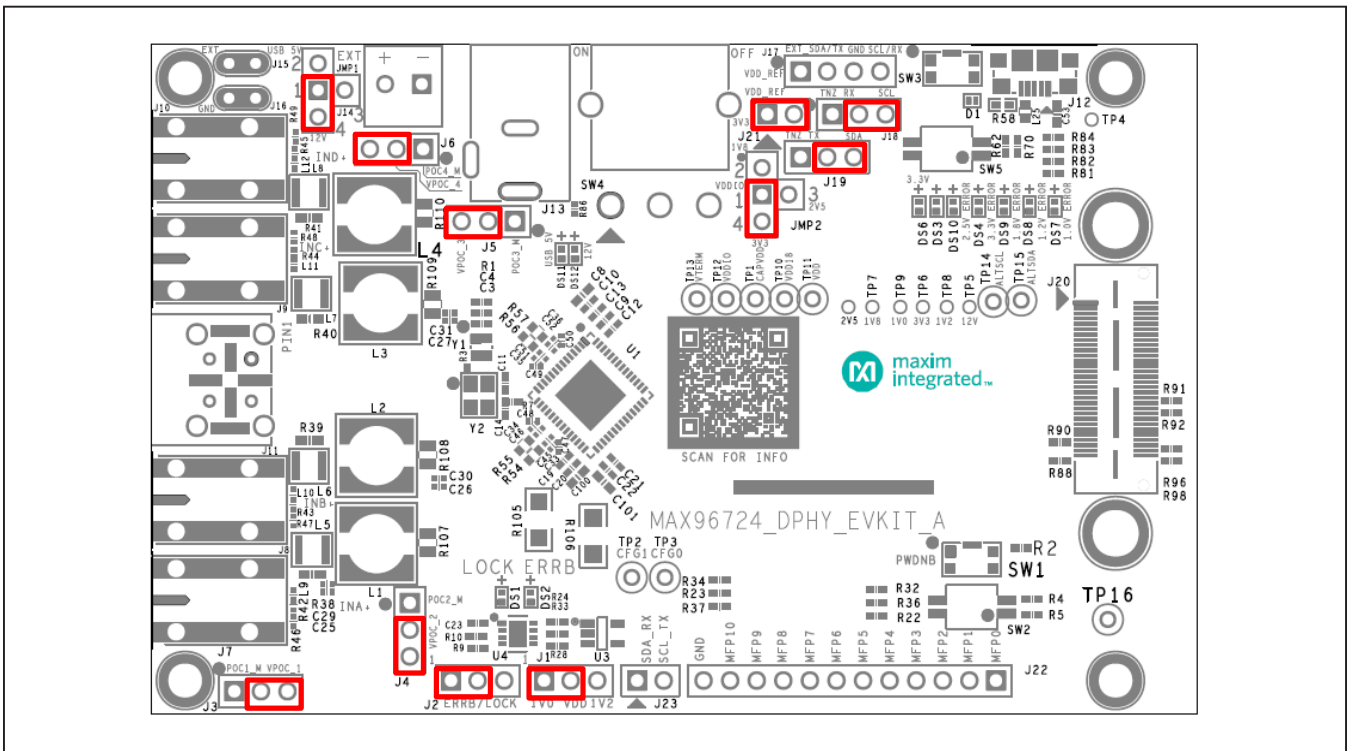

Figure 4. MAX96724 DPHY EV Kit Default Jumper Positions
- 4) Verify all jumper positions on the PCB are properly set to meet the requirements of the application. Figure 4 shows the possible jumper positions for various configurations. The default jumper settings place the device under test (DUT) into the I2C mode, selects 3.3V as the VDDIO voltage and 1.2V as the VDD voltage, and selects the board to be powered by the 12V DC barrel jack.